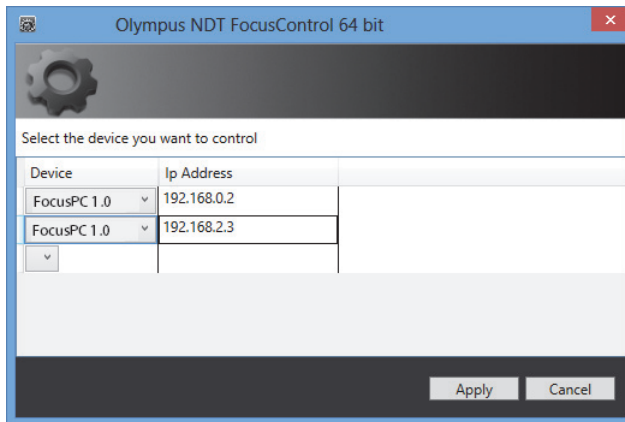

Figure 1-12 The Configuration page
7. On the **Configuration** page, in the lists under **Device** (the topmost item is selected by default), select the elements (FocusPC software) that are to be controlled (see Figure 1-12 on page 24).